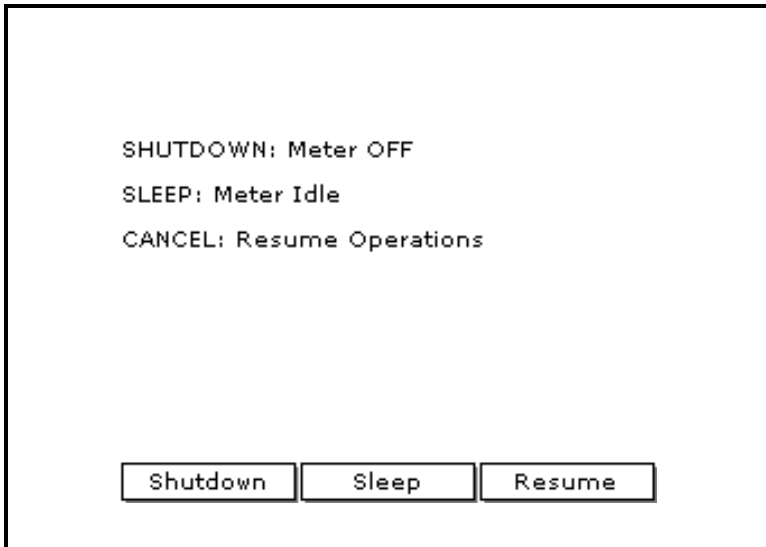

Figure 4-13: The Shutdown Menu
1. Press the red power key for 3 seconds. The screen now appears similar to Figure 4-13 below.